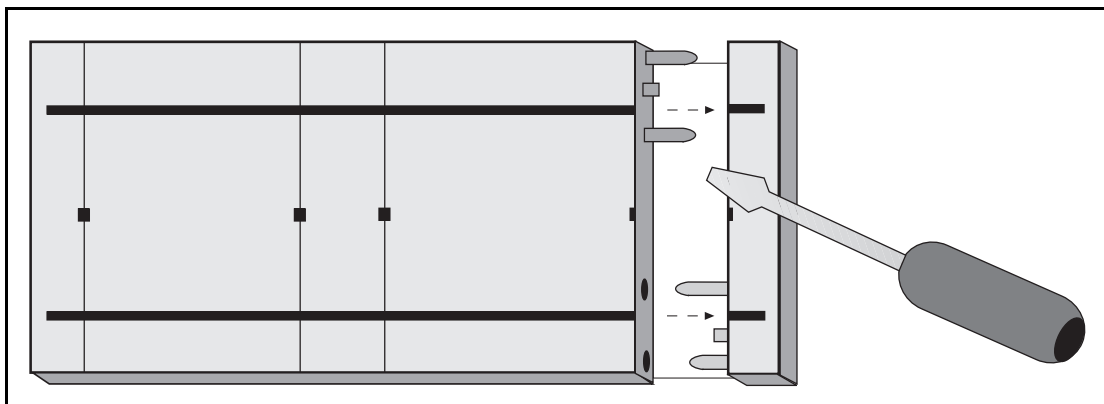

Figure 4. Removing the Connector Block Ends
- For rail mounting, pry off the right and left ends of the connector block with a screwdriver as shown in Figure 4.